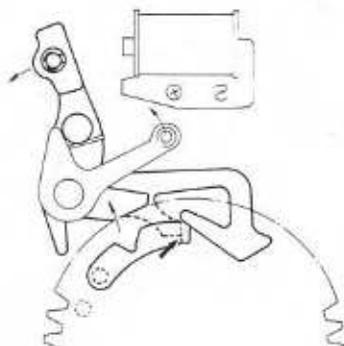

Fig. 3
* Refer to Fig. 3.
At the same time, the 2nd curtain hook lever is disengaged from the 2nd curtain gear forcedly when the Armature moves away from the Magnet. Also the Manual lever follows the Release lever (0-S123). Consequently, both 1st and 2nd curtain gears start turning. But the 2nd curtain gear catches the Manual lever (S133) before moving away the Manual lever from the 2nd curtain gear as indicated in Fig. 3. Then the 2nd curtain gear is stopped.